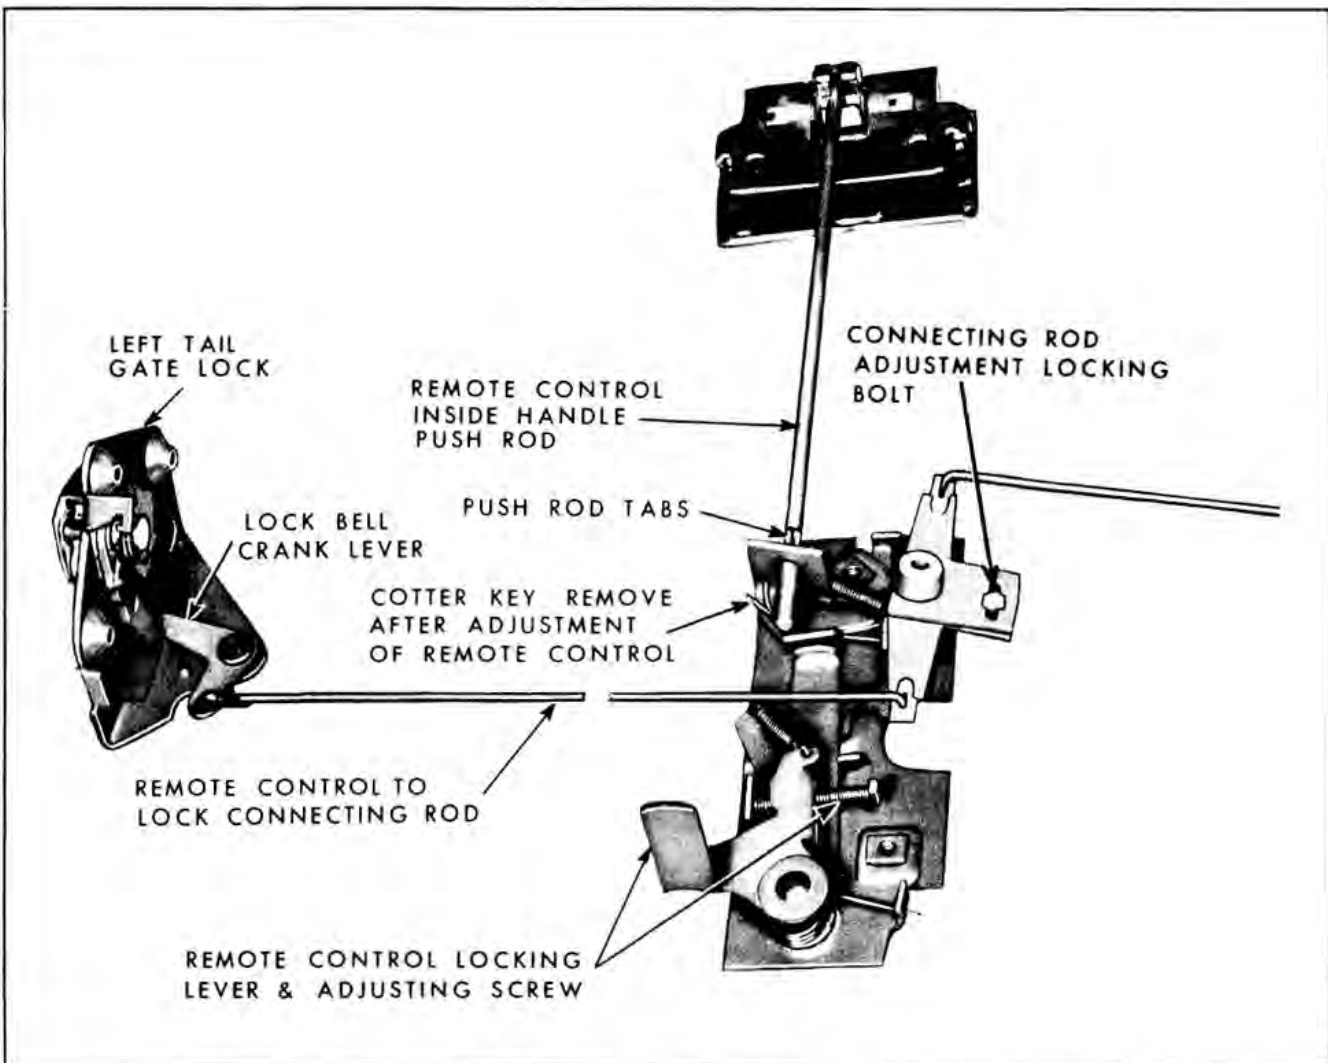

Fig. 16-220 Tailgate Lock Remote Control
- Disengage spring clip and detach lock remote control connecting rod from lock remote control. (Fig. 16-220)
- Remove tailgate lock attaching screws and remove tailgate lock with attached connecting rod. (Fig. 16-220) Detach connecting rod from lock.
When attaching connecting rod to lock bellcrank lever, make sure bellcrank lever is in position shown in Fig. 16-220. When installing connecting rod to remote control, gently pull connecting rod towards remote control lever to seat bellcrank lever at lock. Turn remote control lever adjusting screw until hole in lever is aligned with end of connecting rod; then install connecting rod to lever. (Fig. 16-220)
IMPORTANT: If installing a new remote control assembly, remove cotter key in Fig. 16-220, after adjustment, to free locking lever.